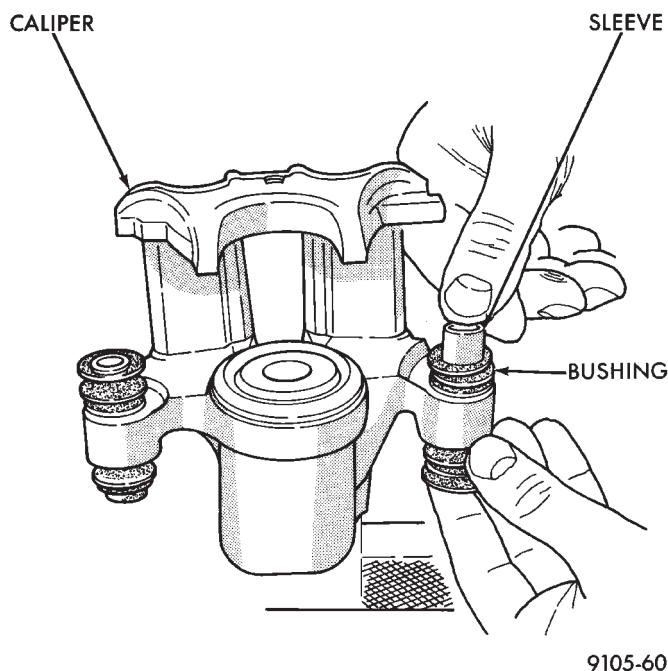

Fig. 7 Installing Caliper Sleeves
(1) Install the sleeve into one end of the bushing until the seal area of the bushing is past the seal groove in the sleeve (Fig. 7).
(2) Holding the convoluted end of the bushing with one hand. Push the sleeve through the bushing (Fig. 7) until the one end of the bushing is fully seated into the seal groove on the one end of the sleeve.